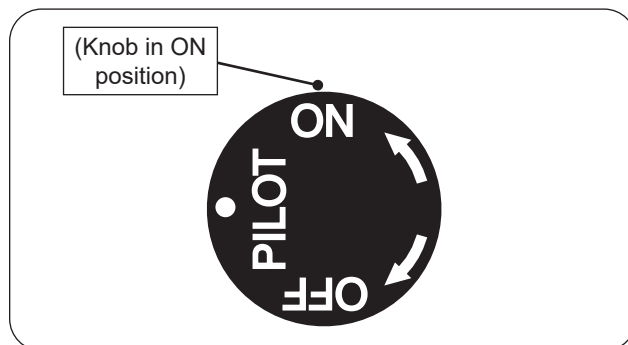

Fig. 20-1 Manual lighting
1. Ensure the pilot is burning. Turn the control knob counterclockwise ↺ to **ON** to ignite the burner (see Fig. 20-1). The valve will open and the burner will light.